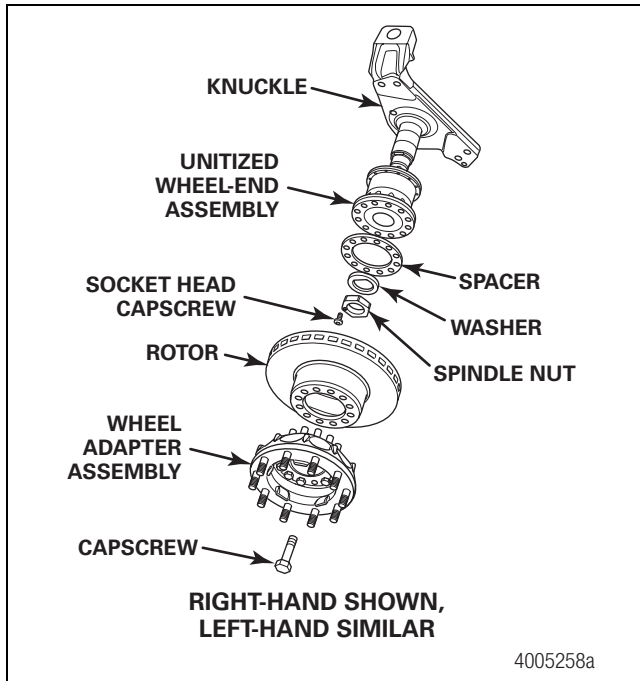

Figure 7.13
4. Carefully align the unitized wheel end bore with the spindle and slide the unitized wheel end STRAIGHT onto the spindle. Figure 7.13.
4. Apply Loctite® 242 threadlocker, Meritor specification 2297-W-5431, to the 12 capscrews. Install the capscrews into the wheel adapter. Tighten the capscrews to 321-339 lb-ft (435-460 N•m). Figure 7.13.